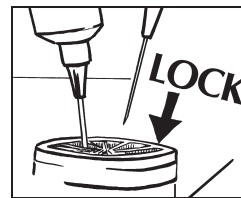

Fig. 1
4. Perform skin wheal with desired needle (25 Ga. or 22 Ga. needle). A SharpsAwayII™ Locking Disposal Cup is used for the disposal of needles. Firmly push needles into disposal cup holes (refer to Fig. 1). Once placed into disposal cup, needles will be automatically locked in place so that they can not be reused. Discard entire cup at completion of procedure. **Precaution: Do not attempt to remove needles that have been placed into cup. These needles are permanently locked in place. Damage may occur to needle if it is forced out of disposal cup.**